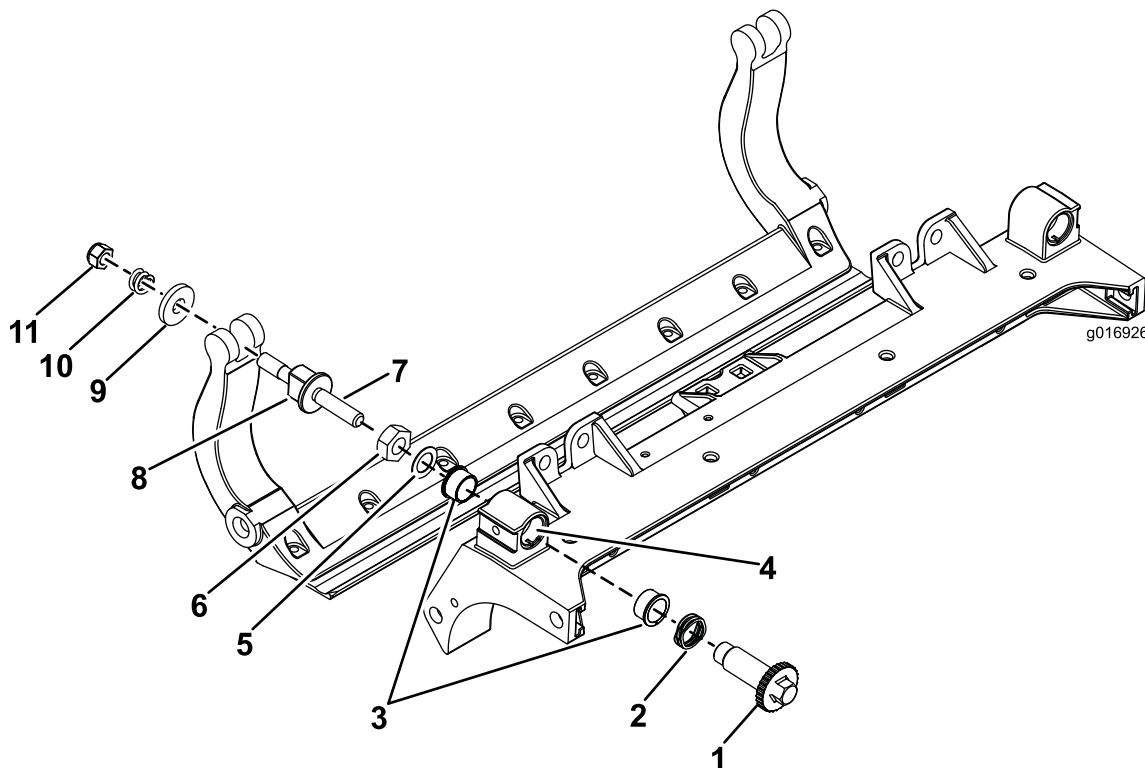

Figure 28
1. Remove all parts (refer to the *Installation Instructions* for the HD DPA Kit and to Figure 28).
2. Apply Never Seize to the inside of the bushing area on cutting unit center frame (Figure 28).
3. Align the keys on flange bushings to the slots in the frame and install the bushings (Figure 28).
4. Install a wave washer onto the adjuster shaft and slide the adjuster shaft into the flange bushings in the cutting unit frame (Figure 28).
5. Secure the adjuster shaft with a flat washer and locknut (Figure 28).
12. Place a steel washer outside each of the nylon washers (Figure 28).
Note: Washers on the inside may have a gap (Figure 28).
15. Tighten the nut on each bedbar adjuster assembly until the compression spring is fully compressed, then loosen the nut 1/2 turn (Figure 28).